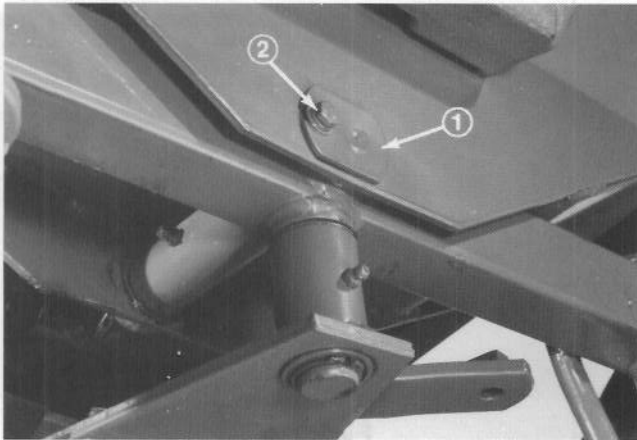

Figure 42
3. Remove capscrew, lockwasher and flatwasher holding outside of axle pin to chassis (Fig. 42).
9. Move rear axle into position at rear of machine. Mount axle between two sections of frame with axle pin and two thrust washers (Fig. 44). The thrust washers must be positioned at ends of the axle pivot tube and between both sections of the frame. Secure axle pin in place with capscrew, lockwasher and flatwasher (Fig. 42).
12. Move rear axle into position at rear of machine. Mount axle between two sections of frame with axle pin and two thrust washers (Fig. 44). The thrust washers must be positioned at ends of the axle pivot tube and between both sections of the frame. Secure axle pin in place with capscrew and lockwasher (Fig. 42).